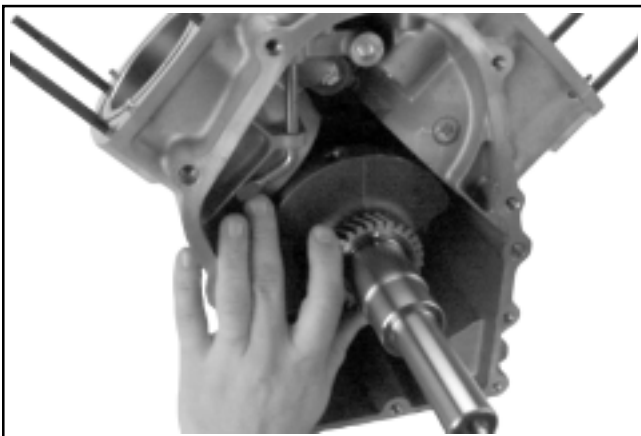

Figure 11-9. Showing Cross Shaft Position.
4. Turn the governor cross shaft to the left until the lower end of the shaft contacts the crankcase. Make sure the cross shaft stays in this position while installing the camshaft. See Figure 11-9.
4. Make sure end of governor cross shaft is lying against the bottom of cylinder 2 inside the crankcase. See Figure 11-9.